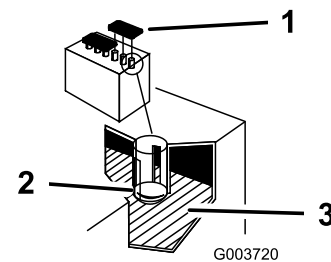

Figure 61
2. Open covers to see into the cells. The electrolyte must be up to the lower part of the tube (Figure 61).
Important: Do not allow the electrolyte to fall below the Lower line (Figure 61).
2. Remove the filler caps from the battery (Figure 61).
3. Slowly pour distilled water into each battery cell until the level is up to the lower part of the tube (Figure 61).